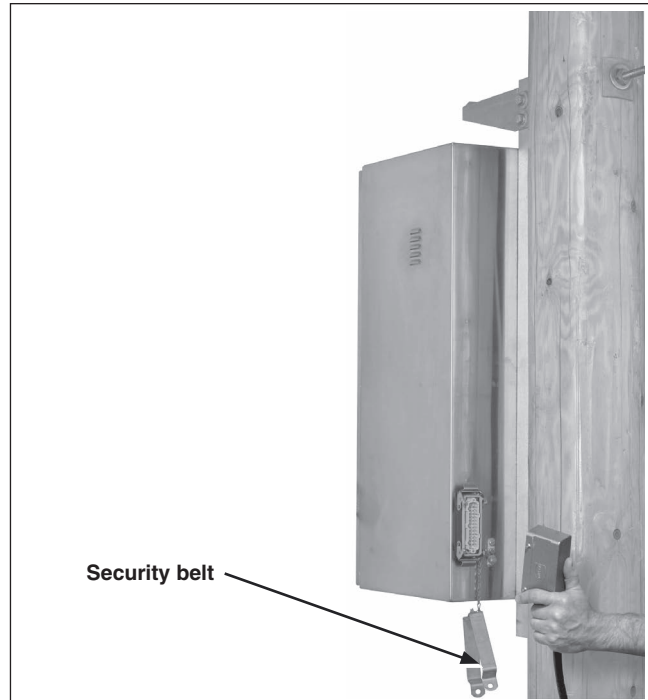

Figure 9. Secure the connector at the control unit.
**STEP 7.** A stainless steel security belt is included with the communication and control unit for padlocking the connector. Place the security belt around the connector, between the connector clips and the enclosure. Insert a padlock (not furnished) through the security belt holes. See Figure 9.